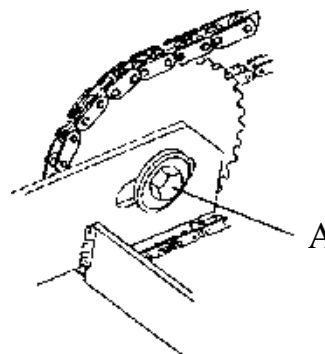

Figure 6.12 Primary drive chain
1. Loosen the idler sprocket pivot bolt (A). Figure 6.12.
3. Tighten the idler sprocket pivot bolt (A) and rotate the primary drive chain to check for tight spots.